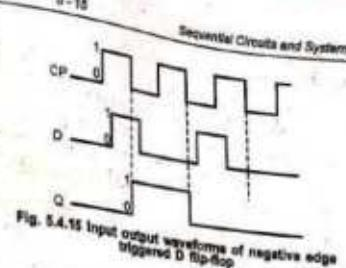

Fig. 5.4.15 Input output waveforms of negative edge triggered D flip-flop
- Fig. 5.4.15 shows input and output waveforms for negative edge triggered D flip-flop.